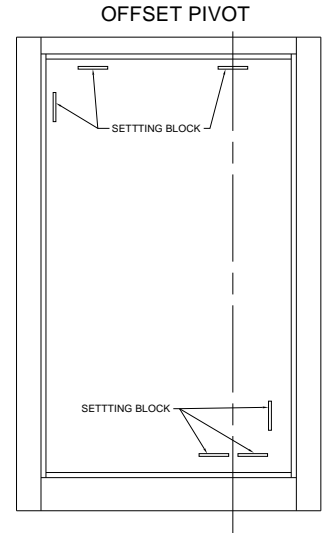

Figure 17:
3. Insert the setting blocks (red bag) according to the image that more closely resembles the product (Figure 17 or 18).
2. Insert the setting blocks (red bag) according to the image that more closely resembles the product (Figure 17 or 18).